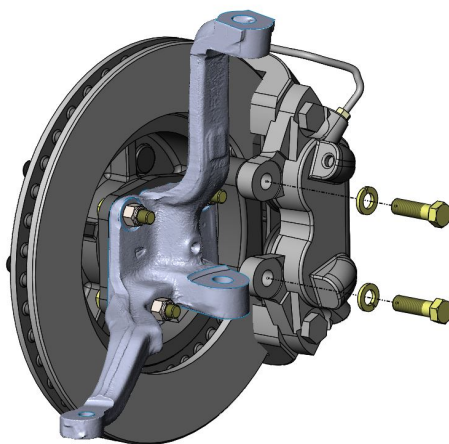

Figure 5a – Caliper Bolt Installation
7. Mount the caliper to the caliper mounting bracket. With the pads installed in the caliper, slide the caliper over the rotor and line up the mounting ears of the caliper with the holes in the caliper mounting bracket. Using the provided 7/16"-14 x 1 1/2" Grade 8 Hex Head Bolts and 7/16" Lock washers, tighten the bolts at this time but do not torque. **NOTE:** When installing the calipers, make sure the brake bleeders are pointing upward. See Figures 5a and 5b on the next page for reference.